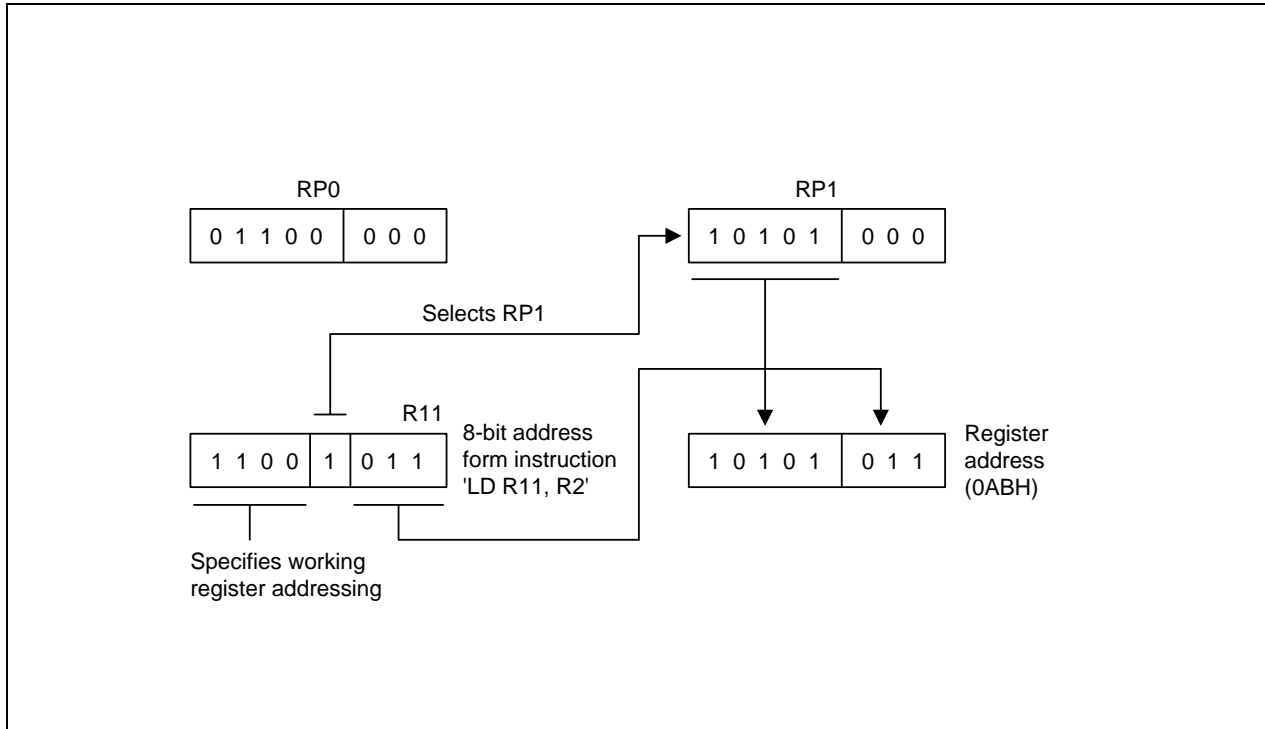

Figure 2-17. 8-Bit Working Register Addressing Example
Figure 2-17 shows an example of 8-bit working register addressing. The four high-order bits of the instruction address (1100B) specify 8-bit working register addressing. Bit 4 ("1") selects RP1 and the five high-order bits in RP1 (10101B) become the five high-order bits of the register address. The three low-order bits of the register address (011) are provided by the three low-order bits of the 8-bit instruction address. The five address bits from RP1 and the three address bits from the instruction are concatenated to form the complete register address, 0ABH (10101011B).